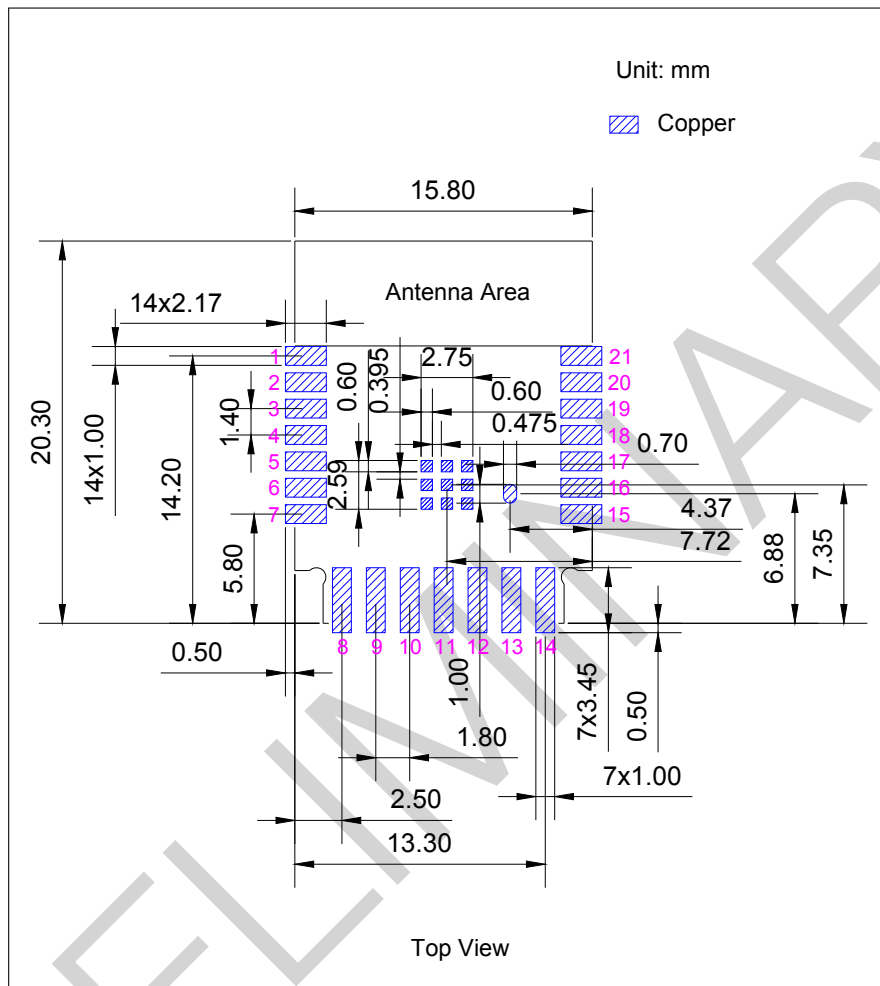
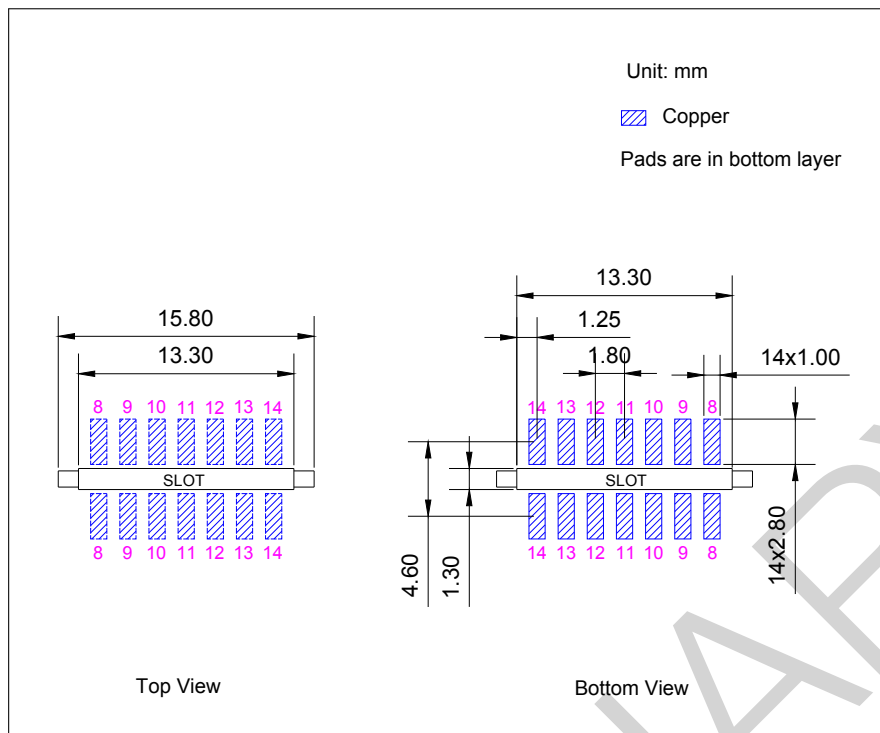

Figure 7: Recommended PCB Land Pattern for SMD Soldering
Figure 8: Recommended PCB Land Pattern for Vertical Module Soldering
- Figure for the recommended PCB land pattern with all the dimensions needed for PCB design. See Figure 7 *Recommended PCB Land Pattern for SMD Soldering* and Figure 8 *Recommended PCB Land Pattern for Vertical Module Soldering*.